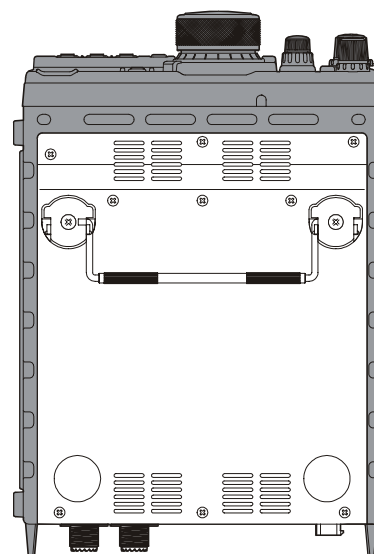

Figure 3
3. Attach the **FP-30** to the bottom of the **FT-897D**, then affix it in place with the six screws removed in the above steps (Figure 3).